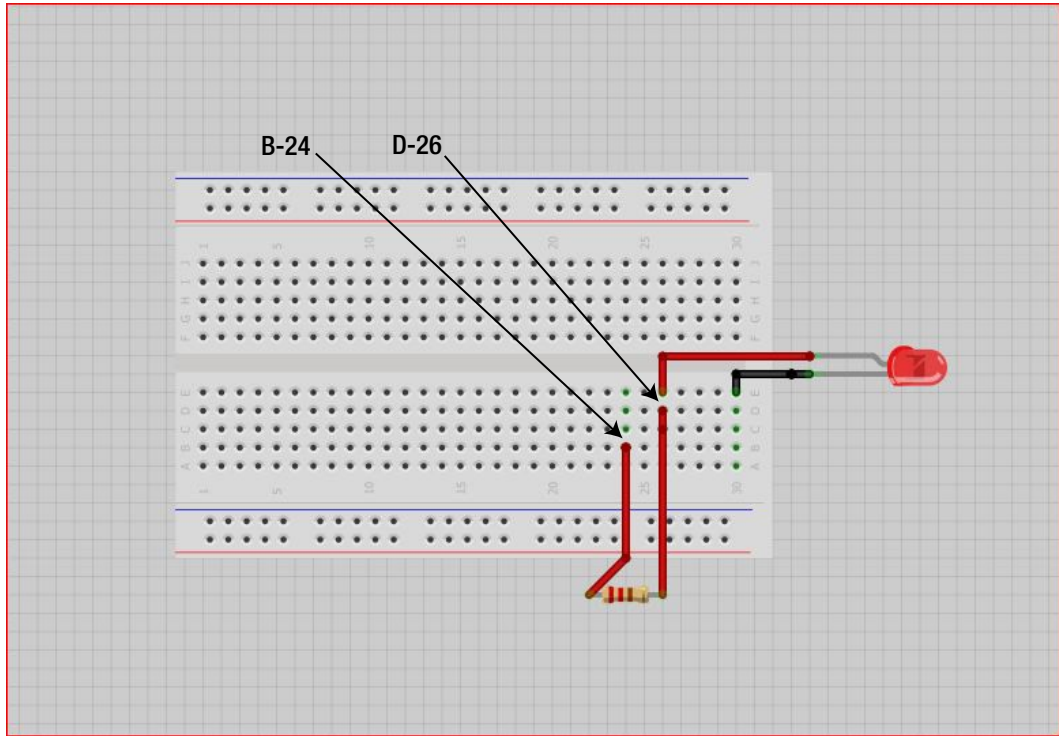

Figure 11-3. *Attach the resistor to the positive lead on the LED*
2. Next, attach the 150-ohm resistor to the positive lead of the LED, as illustrated in Figure 11-3. The 150-ohm resistor has a series of colored bands with the pattern brown-green-red. (You may also have either a gold or a silver band following the red one). Insert one of the resistor leads into Row 26, Column D (D-26) and the other into Row 24, Column B (B-24).